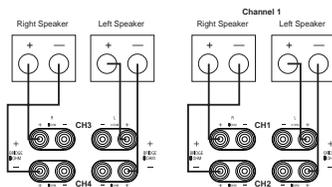

Figure 3
When this option is desired, connect the two speaker pairs as shown in Figure 3. Note that markings for “Bridge 1” and “Bridge 2” should be used, with the connections for all speakers made to the proper “+” and “-” terminals with the outer two vertically oriented binding posts on each side of the channel pair, as opposed to the horizontal orientation of normal speaker connections. DO NOT use the standard channel output and polarity markings for any of the speaker connections.
are to receive this signal to the speaker terminals marked "Bridge 1", as shown in Figure 3. Make certain that the connections for these speakers are made to the proper "+" and "-" terminals with the two vertically oriented binding posts on each side of the channel pair, as opposed to the horizontal orientation of normal speaker connections. DO NOT use the standard channel output and polarity markings for these speaker connections.
- Connect the other input source to the **Channel 3 Input Jack 14**. Connect the speakers that are to receive this signal to the speaker terminals marked "Bridge 2", as shown in Figure 3. Make certain that the connections for these speakers are made to the proper "+" and "-" terminals with the two vertically oriented binding posts on each side of the channel pair, as opposed to the horizontal orientation of normal speaker connections. DO NOT use the standard channel output and polarity markings for these speaker connections.